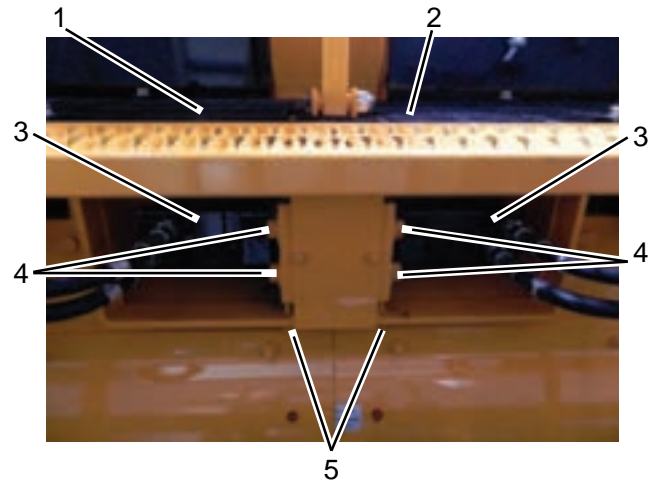

Figure 5-38. Auger Motors
5. Remove the two nuts on the cover and pry the cover apart. (**Figure 5-38**)